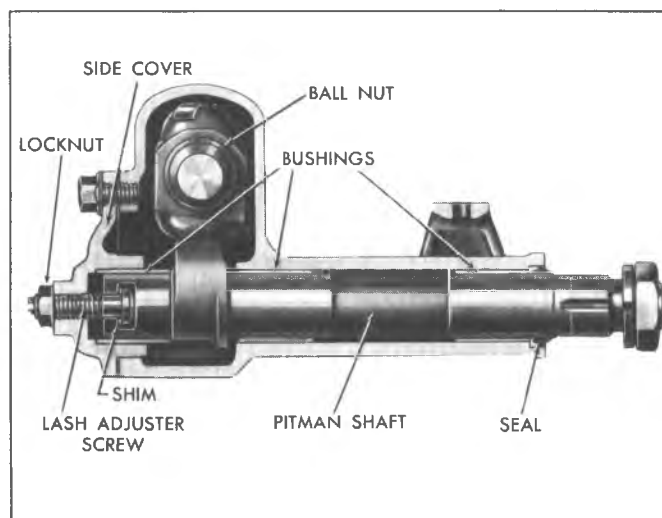

Fig. 4--Steering Gear (Corvette and G10-30 Series Trucks)
2. Press the new bushing(s) into position using Tool J-1614. Position the Corvette and G10-30 Series Truck bushings as shown in Figure 4.